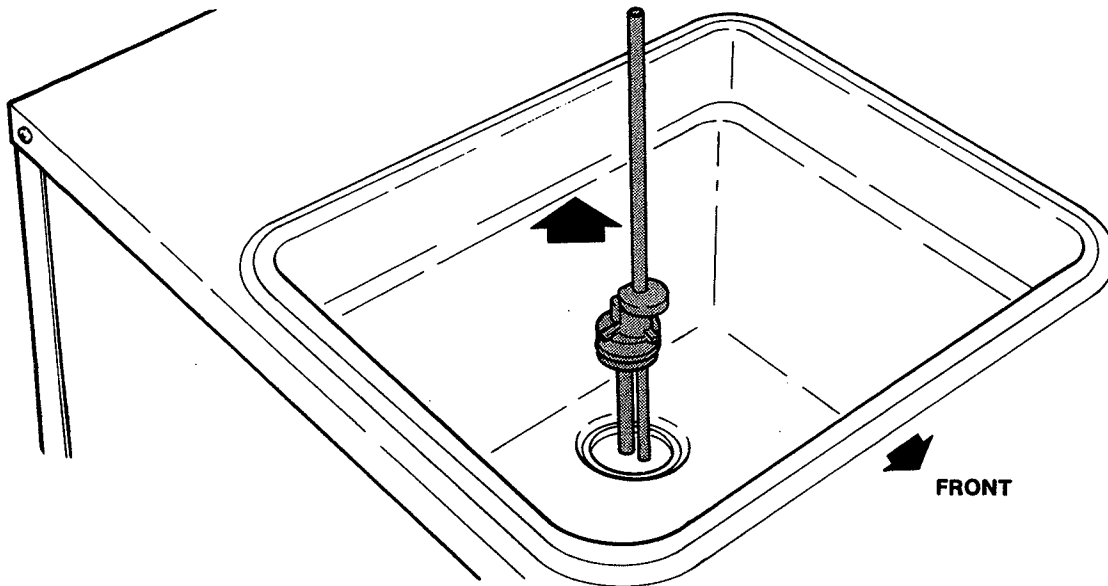

Figure 19. Carburetor Removal
- A. Remove the mix inlet regulator from the hopper by pulling straight up (Fig. 19).